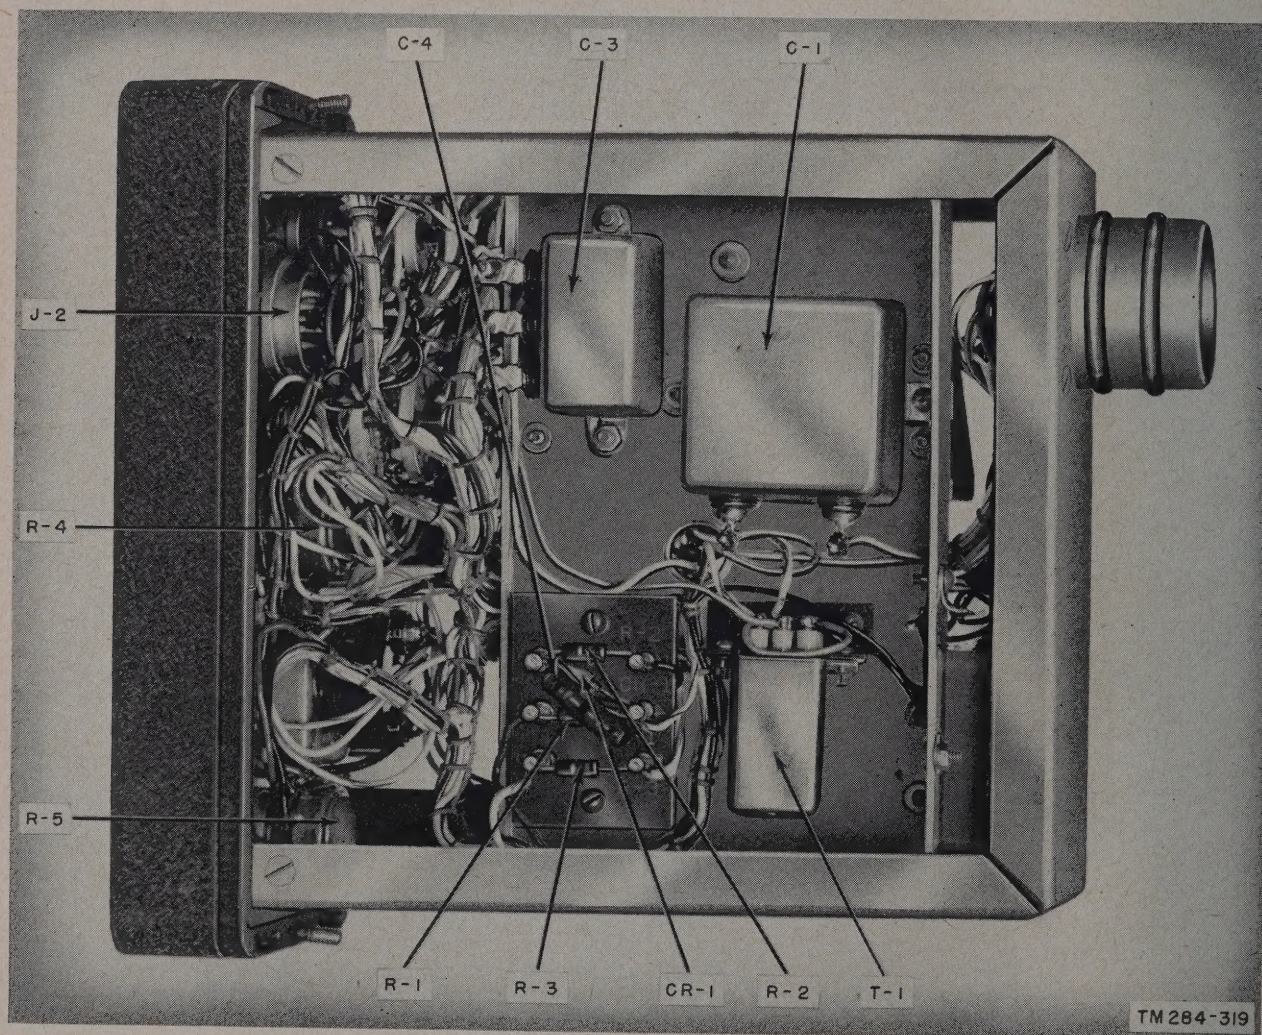

Figure 87. Control C-435/GRC, bottom view of chassis.
a. Control C-435/GRC has no pluck-out parts for which running spares are supplied. Refer to figures 87 and 88 and the parts lists in appendix II for minor repairs such as the removal of a lamp.